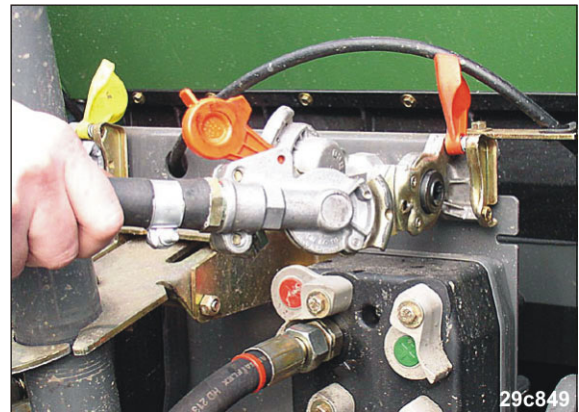

Fig. 55
2. Release the hose coupling (Fig. 55) of the supply line (red).